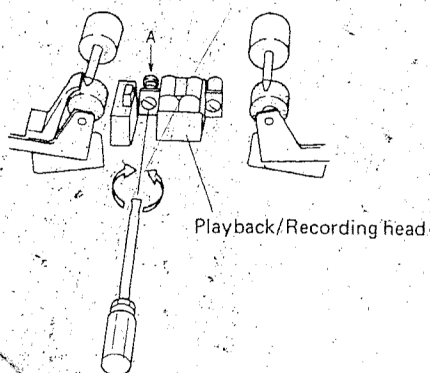

Fig. 25
2. Playback the 10kHz, -20dB section of test tape STD-341A, and adjust the head azimuth adjustment screw A (see Fig. 25) to produce maximum output level in both L and R channels.